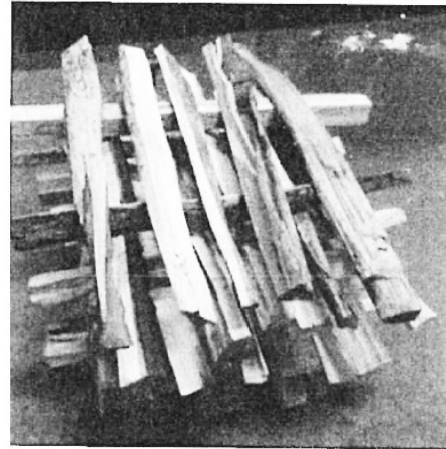

Figure 34. Criss-Cross Pattern
1. Cut and split kindling pieces approximately 10” long. The recommended piece size is 1/2” - 3/4” in cross section. Cut and split kindling pieces at 6” long and about 1/2” in cross section. The kindling should be very dry and the total weight would be about 1 lbs. if hardwood. A recommended stacking arrangement of the fuel pieces is shown in Figure 34.